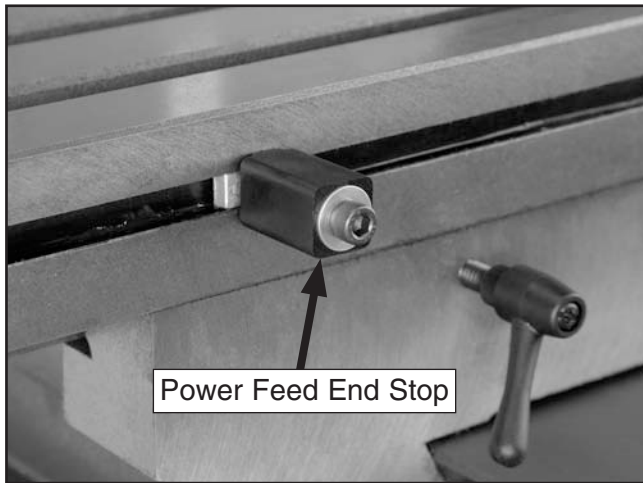

Figure 15. Power feed end stop.
7. Remove the pre-installed round end stops from the slot on the front edge of the table, then insert the power feed end stops in their place and tighten them (**Figure 15**).